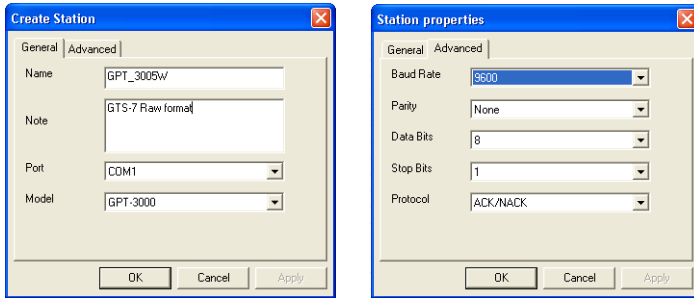

Figure 8-25. Total Station Properties
4. In the *General* tab of the *Create Station* dialog box, enter the following information and click **OK** (Figure 8-25).
- In the *Advanced* tab of the **Create Station** dialog box, enter the baud rate, parity, data bits, stop bits, and protocol used for communication with the TS (Figure 8-25).